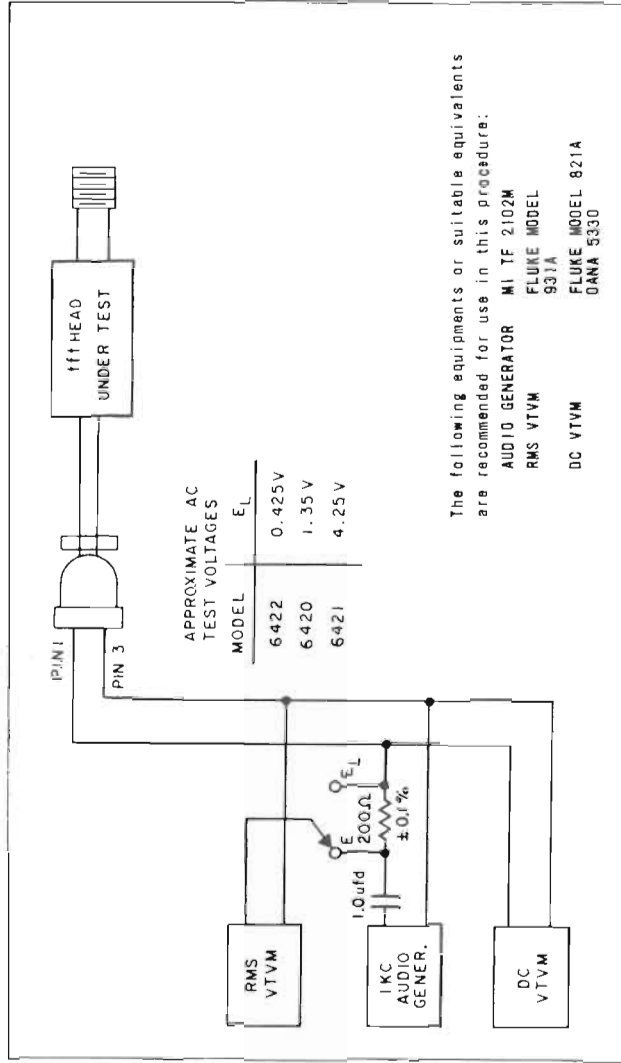

Figure 3. Test Set-Up for Audio Calibration
- a. Connect the tft Power Head as shown in figure 3. Be sure to observe proper ground connections to avoid spurious ground loops. To check for this, prior to connecting the tft Power Head